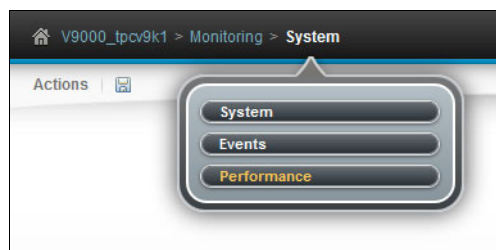

Figure 2-47 Menu to enter the Performance monitor
3. From the main window, select **Monitoring** → **System** → **Performance** to open the Performance monitor, as shown in Figure 2-47.